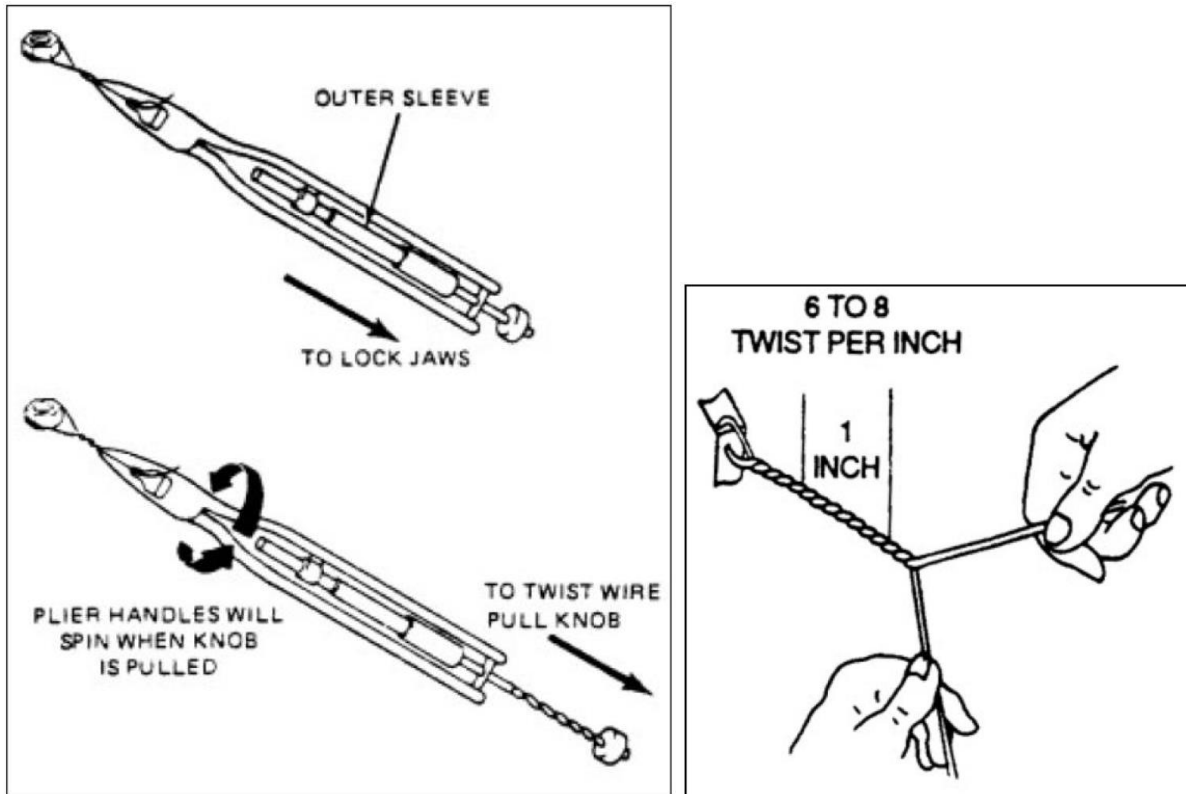

Figure 18 – Safety Wire Installation Using a Twister/Pliers & By Hand
- e. Safety wire must never be over-stressed. Safety wire will break under vibrations if twisted too tightly. Safety wire must be pulled taut when being twisted, and maintain a light tension when secured (Figure 18).